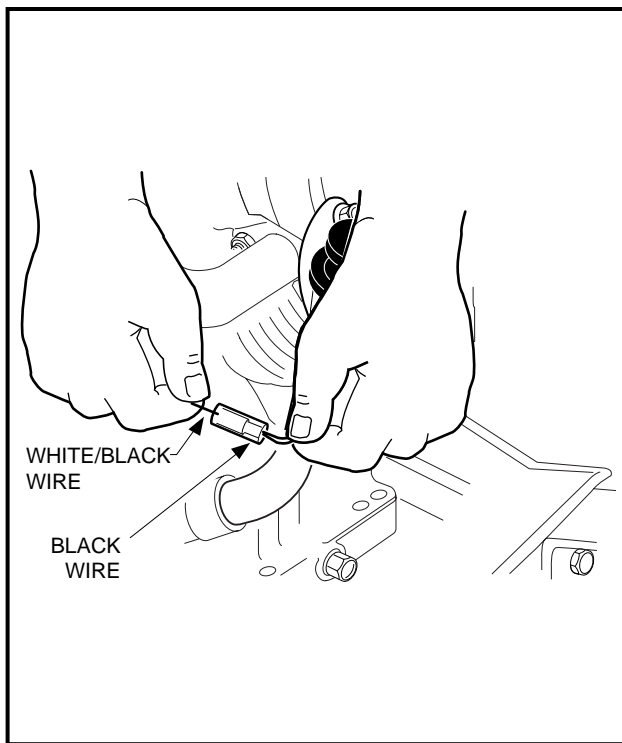

Figure 16-21 Engine Kill Switch Wire
- 3.14. Disconnect the engine kill switch wire (18 gauge white/black) from the bullet connector at the lower right front of the engine (**Figure 16-21, Page 16-11**).